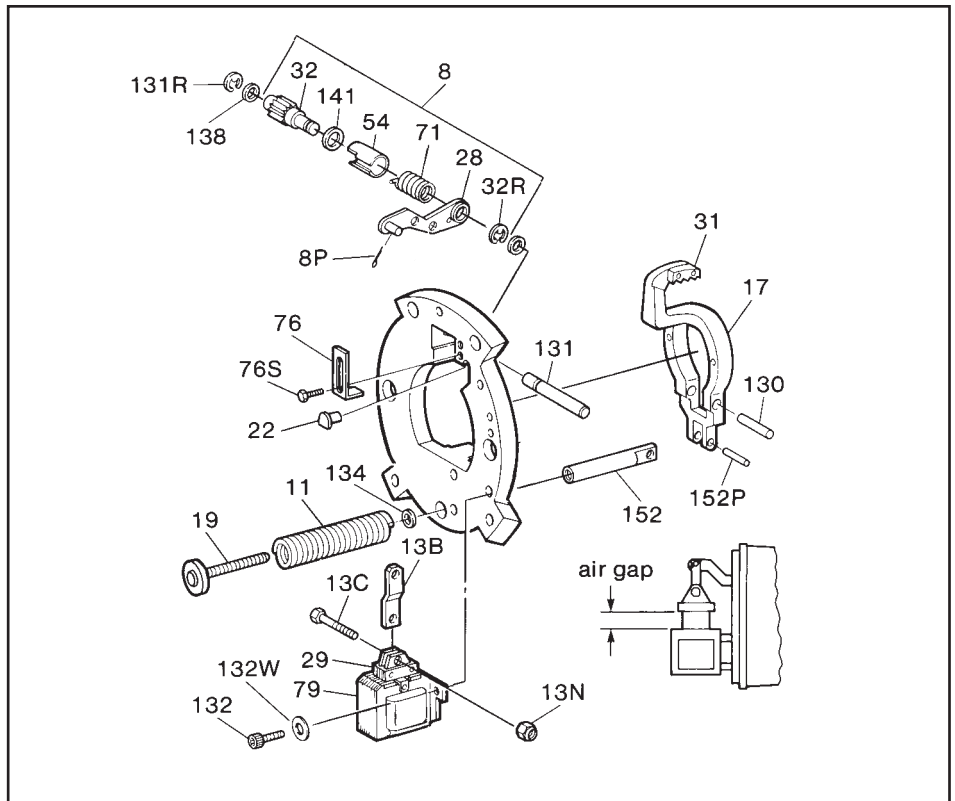

Figure 6
H. Mount support plate assembly, torque screws to 50 lb-in in endplate. Conical spring washer installed under the screw head. Flat washer used under the conical spring washer only with aluminum support plate. Be sure that assembly is mounted with the solenoid in a vertical position (plunger above frame) as shown when brake is horizontal. If the self-adjust assembly has allowed the mechanism to over-adjust, it will have to be reset before mounting support plate. In this case, the lever arm (17) throat will be near, or touching, the pinion (32) teeth. Refer to Figure 6 and *Self-adjust Maintenance*. Loosen pressure spring cap screw (19) until pressure spring (11) is free, mount support plate assembly to endplate and retighten spring cap screw until snug. Do not overtighten! Torque to a maximum of 96 lb-in.
### C. Self-adjust maintenance (See Figure 6)